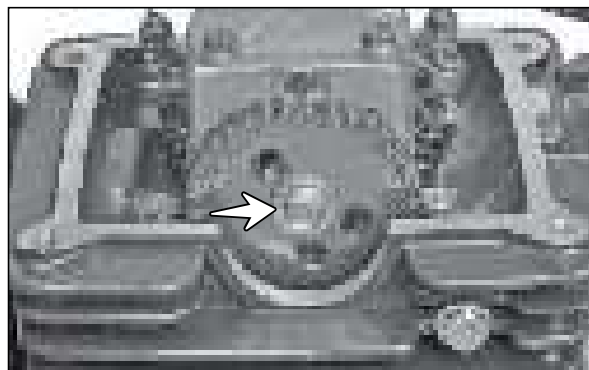

Fig. 3.41
- Now, remove the hexagonal flange bolt (M8x1.25 LH) from the cam shaft assembly. (Fig. 3.41)